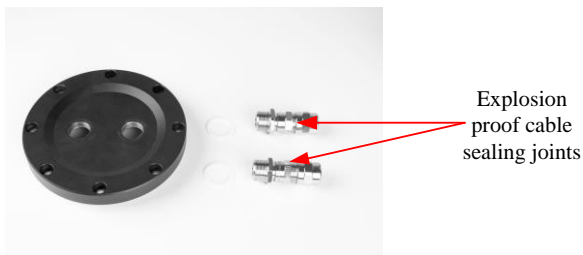

Figure 6
- (3) Remove the two cable sealing joints from rear flange plate by an open-ended wrench, as the following Figure 6 shows: